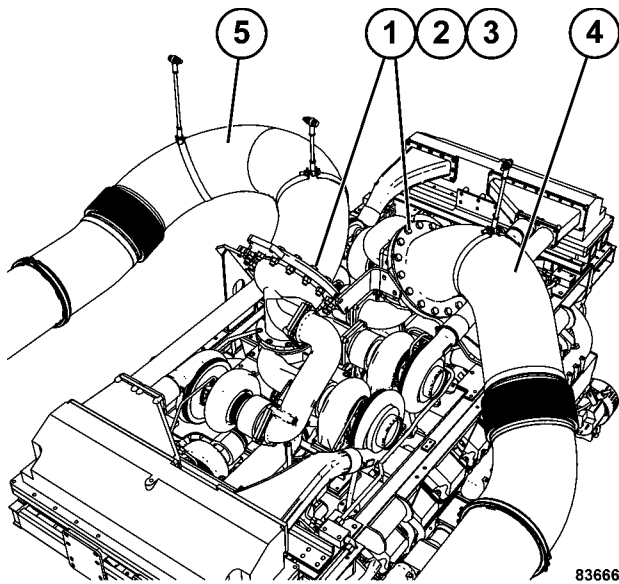

FIGURE 50-4. ENGINE EXHAUST PIPING
9. Remove the exhaust duct clamps. Remove capscrews (1, Figure 50-4), lockwashers (2) and nuts (3) that secure the exhaust pipes to the turbocharger outlet flange. Remove exhaust ducts (4) and (5). Cover the opening on the engine exhaust outlets.